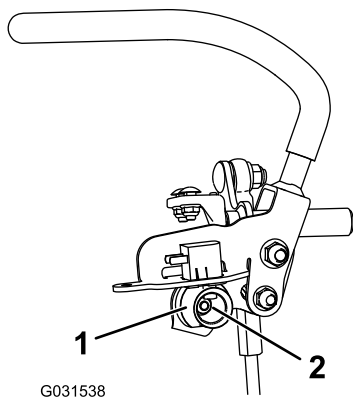

Figure 74
6. Loosen the nut holding the cam (Figure 74).